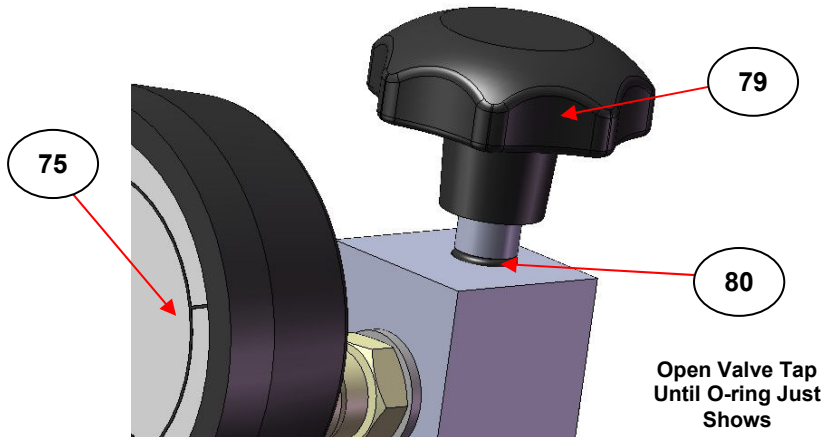

Fig 7. Opening of Valve Tap for Bleed of Air Procedure
Now, very slowly open the valve tap (79) by anti-clockwise rotation of the handle until the O-ring (80) is just beginning to emerge from the top of the manifold body (77). (See Fig 7.) Any air that may be trapped in the manifold body (77) will be forced out at the top past the opened valve tap (79) and by the O-ring seal (80) from the oil pressure that has been pumped on the system. When air and oil is observed at the valve tap (79) by the O-ring (80), a slight decrease in the tonnage load that has been applied at the higher tonnage load gauge (31) and a registering of a low tonnage load at the low tonnage gauge (75) fitted will also be observed.